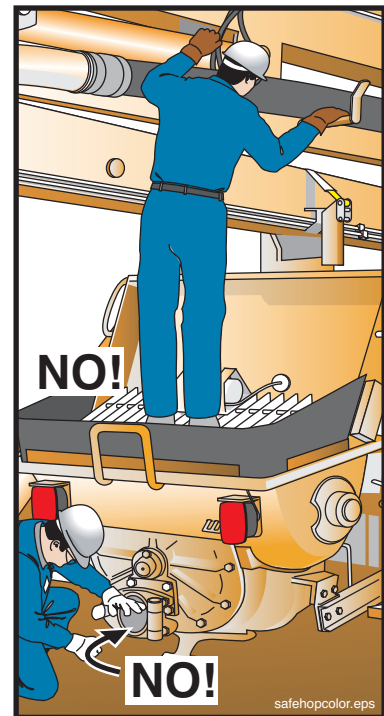

Figure 59
10.3 **⚠ WARNING** Crushing and amputation hazard! **Never put your hands or any other body part into the concrete valve.** Instead, use water jets and the supplied rake (Figure 59).
10.4 **⚠ WARNING** **Never put your hands or any other body part into the machine when the hydraulic system is operational.** If you must remove the grate to chip at hardened concrete, you must first disable the system by taking the transmission out of gear and locking the cab door, or stopping the engine, relieving pressure in the accumulator circuit (if so equipped) and securing the controls against unintended operation. Reinstall the grate before restarting the engine (Figure 59).